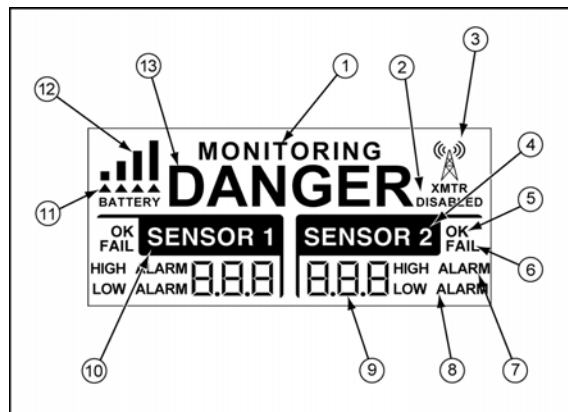

Figure 4. Display Elements
- Figure 4 and Table 7 describe the liquid crystal display (LCD) elements of the detector.